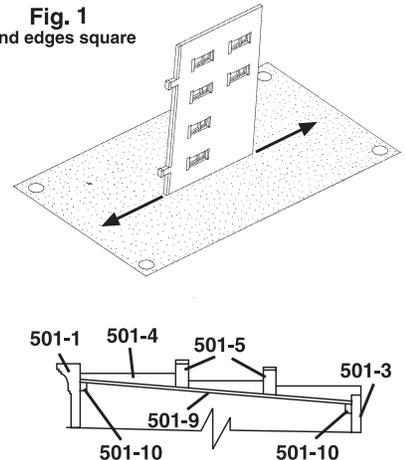

Fig. 3
- Install Roof (502-9) through bottom of building and glue to bottom of Chimney Backs (Fig. 3).
- Glue one Roof Support to bottom of Roof and along Front Wall and one to bottom of Roof and along Rear Wall (Fig. 3).